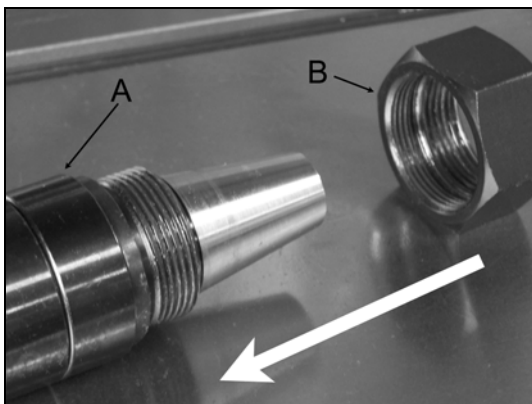

Figure 6
3. Thoroughly clean the taper of the spindle (A, Figure 6) and the internal taper of the quill assembly using a soft cloth moistened with kerosene or mineral spirits.
4. Thread the special nut (B, Figure 6) onto the spindle (A, Figure 6). It is only necessary to hand tighten the nut.